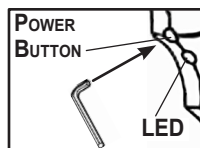

Figure 7: Power Button and LED Location on Front of Grip
- Make sure you are pressing the Power Button, not the LED (see Figure 7 on page 11).